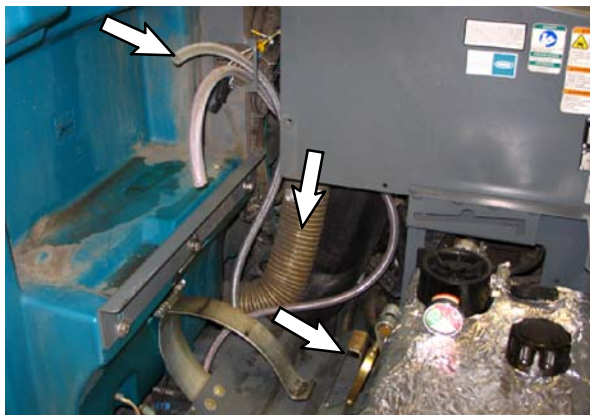

FIG. 3
11. Use a hose clamp to install the 20" PVC hose and 60" PVC hose onto a y-fitting. Refer to Fig. 3.
12. Route the end of the PVC hose (end with the y-fitting-if machine is equipped with optional side brush) from the operator compartment down to the scrub head. Refer to Fig. 3.